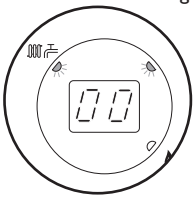

Fig. 75
6. The display will show '00', indicating maximum rate, then revert to 'P' alternating with the current boiler temperature (Figs. 75, 76 & 77).